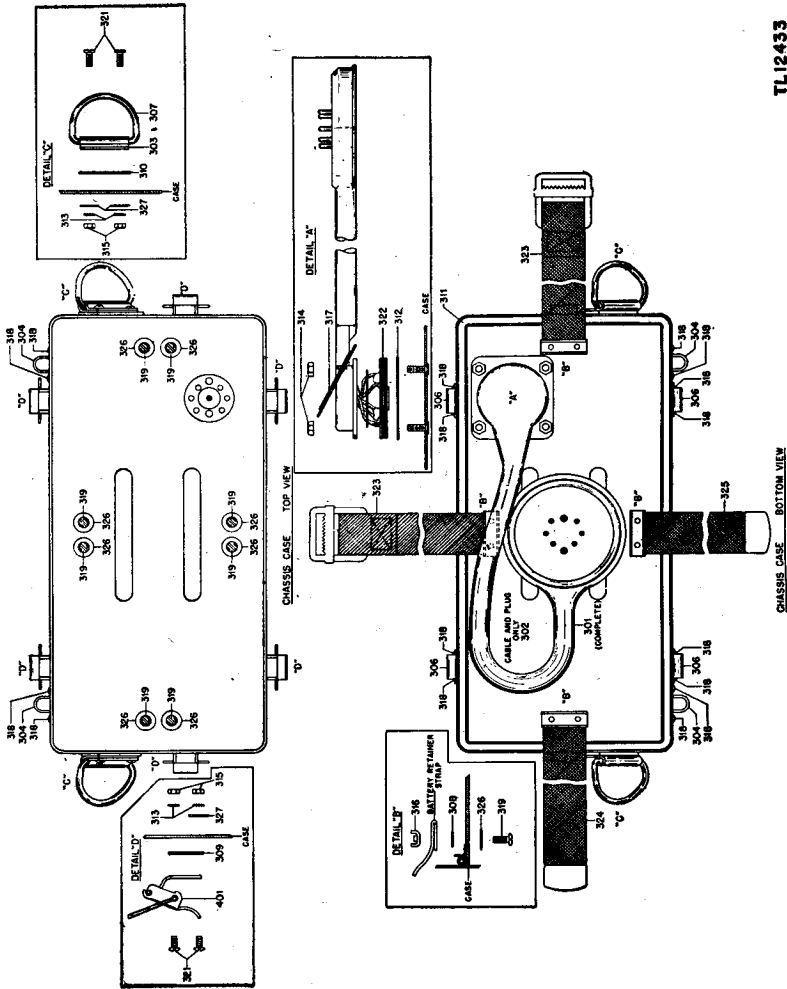

Figure 81. Chassis case, parts location.
c. CHASSIS CASE. Assembly details of screws and washers used on the chassis case are shown in top and bottom views of figure 81.